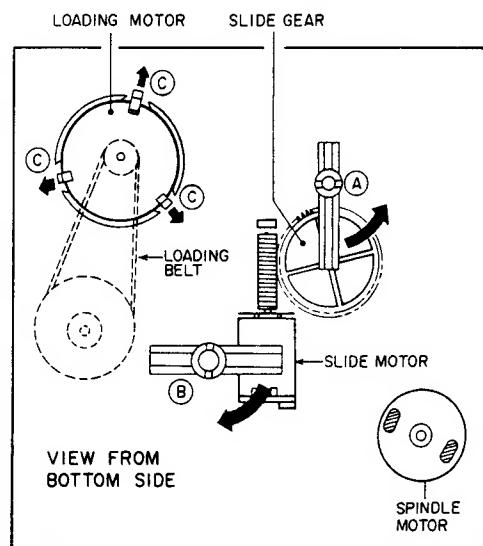

Fig. 3-4
- 1) Turn the ④ GEAR HOLDER LEVER counter-clockwise (Fig. 3-4), then pull out the SLIDE GEAR.
- 1) Remove the LOADING BELT, then remove the LOADING MOTOR while releasing the ④ hooks (Fig. 3-4).
- 1) Turn the ④ SLIDE MOTOR HOLD LEVER (Fig. 3-4) clockwise, then pull out the SLIDE MOTOR.